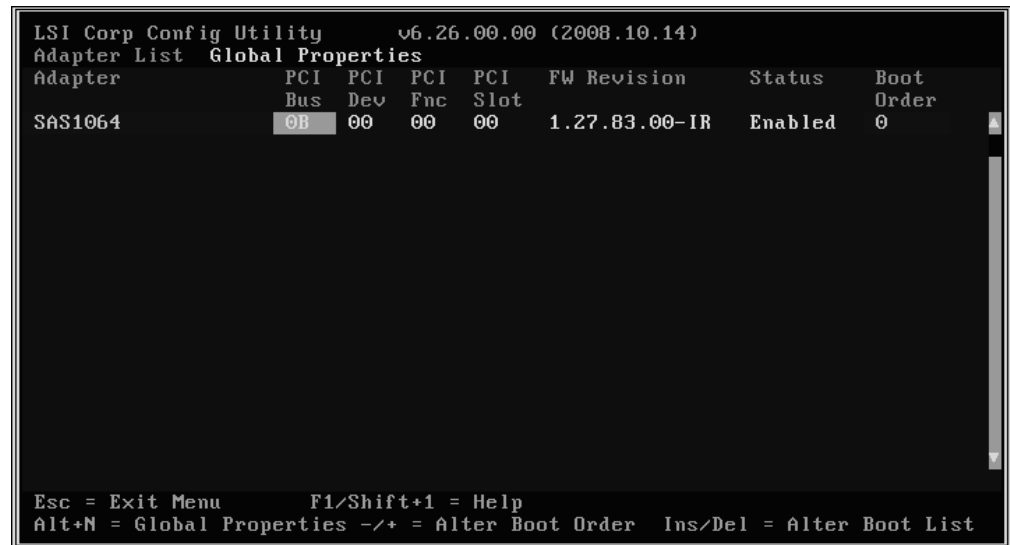

Figure 16. Adapter List screen showing the Onboard SAS Controller.
1. When the <<<Press Ctrl-C to start LSI Logic Configuration Utility>>> prompt displays during system boot, press Ctrl+C to enter the LSI Logic Configuration Utility. The Adapter List screen displays, similar to Figure 16 on page 47.